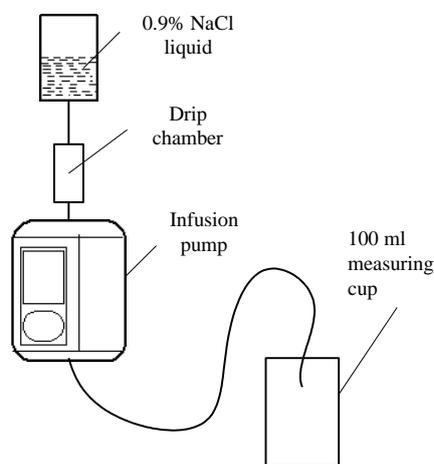

Figure 0-4
If the infusion error is caused by the abnormal operation of the apparatus itself, the reasons are complicated. It can be processed in the following methods: obtain physiological saline whose volume is not less than 150ml, connect a measuring cup to the output terminal of liquid, connect the test system in accordance with Figure 0-4, and set the infusion rate to 150mL/h (simplified as V_a) and time 30 minutes. When the infusion rate is stable, count the number of drops for each minute. Then, multiply the number of drops for each minute by 3. The final result shall be the actual estimated flow rate (simplified as V_b). After 30 minutes have been counted, check the volume (V) of liquid in the measuring cup. Divided it by 0.5h, the actually-measured average rate V_c shall be obtained. Compare V_a , V_b and V_c and process them in light of different results: